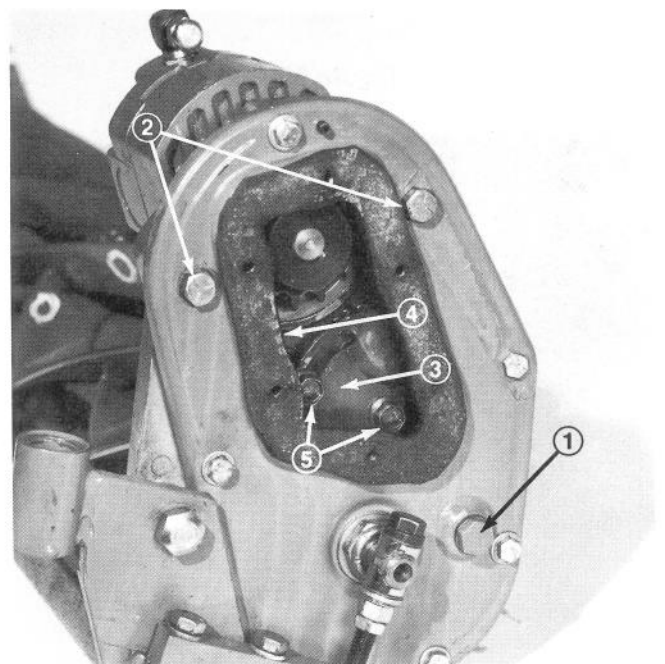

Figure 58
1. Lower cutting units, disassemble top shield fasteners opposite motor end, remove inspection cover from chain case, loosen chain idler, push reel motor mounting capscrews back but do not remove or "O" rings will be displaced. Remove shield, lift chain off motor sprocket and remove motor (Fig. 58).
2. Check chain tension (Fig. 58). Chain should have 0 to 1/8 in. (0 to 3 mm) deflection when properly adjusted and should be retensioned when deflection exceeds 1/4 in. (6 mm). Rotate reel while checking to ensure all portions are within specification. If tension is correct, proceed to step 6. If tension is incorrect, proceed to step 3.
3. Loosen idler mounting capscrews (Fig. 58). Rotate the reel by hand, watching for the sprocket position where the chain tension is tightest. At this point make a final Idler adjustment, fingertight, for chain deflection.